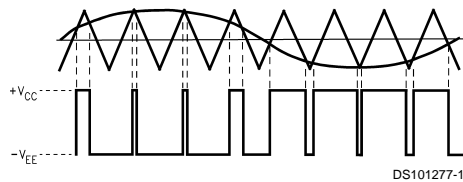

FIGURE 2. Conventional Pulse Width Modulation
**System Functional Information:** The LM4651 is a conventional pulse width modulator/driver. As Figure 2 shows the incoming audio signal is compared with a triangle waveform with a much higher frequency than the audio signal (not drawn to scale). The comparator creates a variable duty cycle squarewave. The squarewave has a duty cycle proportional to the audio signal level. The squarewave is then properly conditioned to drive the gates of power MOSFETs in an H-bridge configuration, such as the LM4652. The pulse train of the power MOSFETs are then fed into a low pass filter (usually a LC) which removes the high frequency and delivers an amplified replica of the audio input signal to the load.